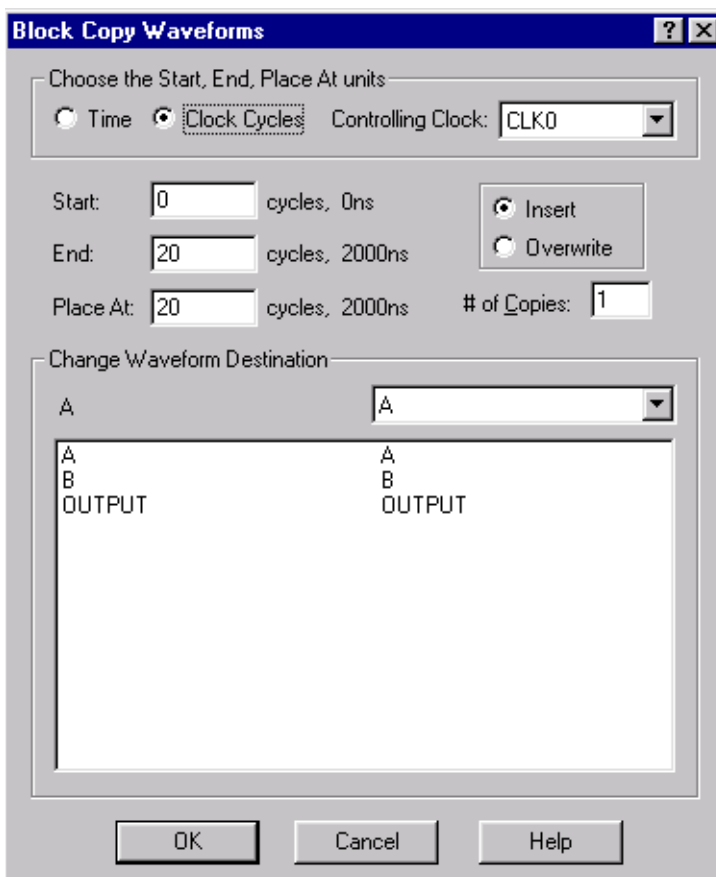

Figure 5-7. Block Copy Waveforms Dialog Box
2. Select the **Edit > Block Copy Waveforms** menu option. This opens the Block Copy Waveforms dialog box (Figure 5-7) with the selected signals displayed in the Change Waveform Destination list box.